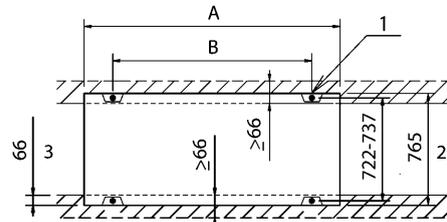

Figure 4 (Unit : mm)
- The base should be bigger around than the width of the unit's legs (66mm),and should support the unit. (Refer to Figure 4) If protective rubber is to be attached, attach it to the whole face of the base.
(Refer to Figure 4)